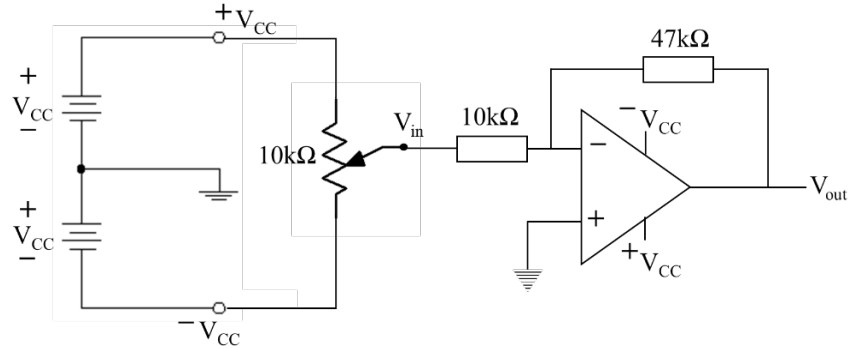
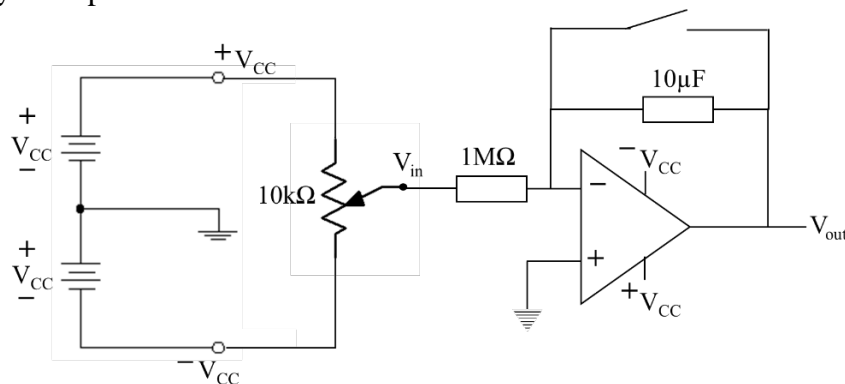

Figure 2-6 Inverting amplifier circuit
Figure 2-7 DC integrator amplifier circuit
5. Connect the inverting amplifier circuit in Figure 2-6. Carefully measure the values of the resistors that will be used in the circuit. Check the circuit carefully.
11. By placing a 10μF capacitor in the feedback path (in Figure 2-6.) and a 1MΩ resistor at the input we obtain a circuit that performs the mathematical operation of integration, see Figure 2-7. Place a switch in the closed position (a jumper will work too) across the capacitor and adjust V_{in} to 10 V.